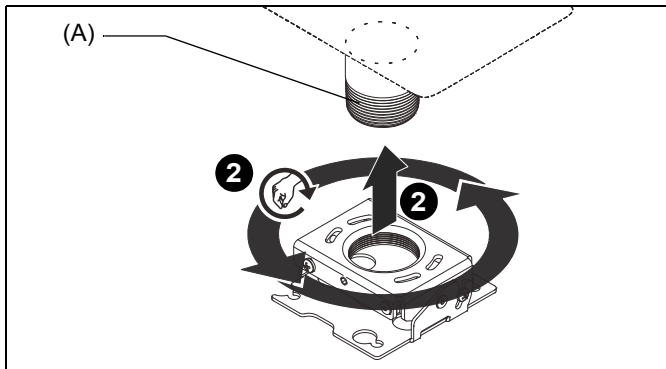

Figure 9
2. Align projector mount with end of 3" fixed pipe (A), and thread projector mount up onto pipe by turning counter-clockwise until hand tight, with a minimum of four threads engaged. (See Figure 9)